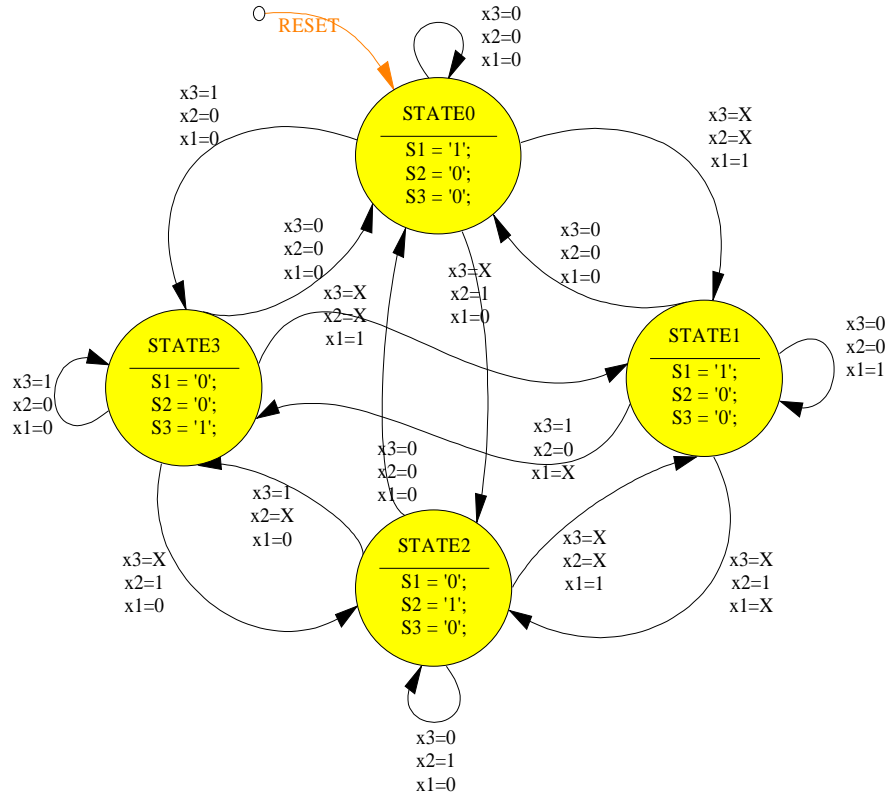

Figure 3: State Diagram for Traffic Light FSM
Based on the above specifications, the state diagram of this Finite State Machine has been provided in Figure 3 below. Your objective in this experiment is to implement the functionality described by this state diagram using Verilog HDL.
4. In the *Traffic_Controller.v* file, implement a module named *Traffic_Controller* which will implement the functionality specified by the state diagram of Figure 3.
- b. Another for the Output Logic, which generates the signals $S1$, $S2$, and $S3$ based on the Current State only (see Figure 3 above).